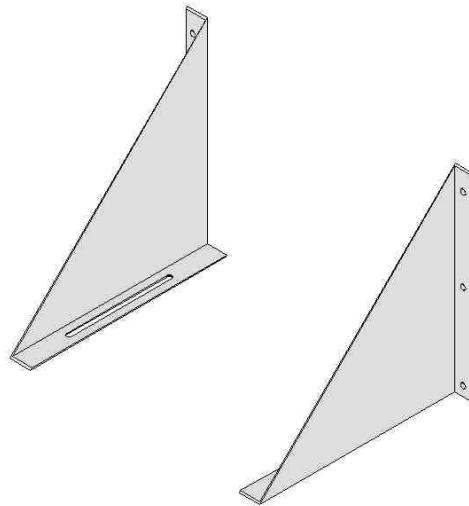

Figure 5. Wall Bracket (WBR)
- v. WALL BRACKETS (WBR) – Secure the wall brackets (Reference Figure 5) to supporting construction using a min. of six 1/2 in. bolts/anchors (three per bracket). Use appropriate type fasteners for the intended construction and as specified by the responsible design professional. Mount the Pre-Fabricated Grease Duct (Item 1) to the wall brackets using either the Plate Support Assembly (Item 3Bii) or the Flange Support Assembly (Item 3Biii) using min. 3/8 in.